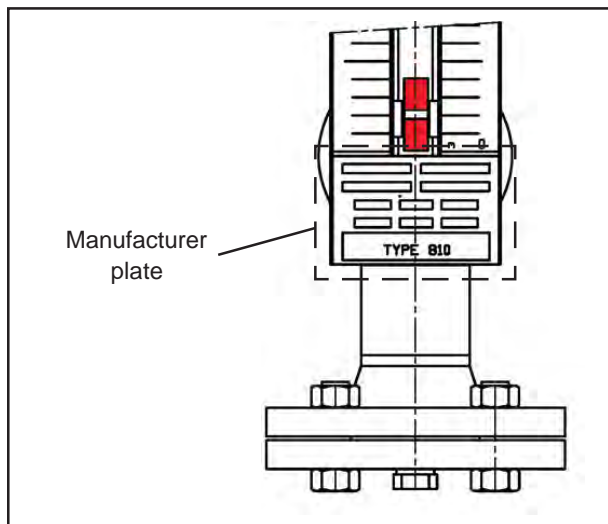

Figure 4-4 Manufacturer Plate Location
- Remove the lower manufacturer plate (see Figure 4-4).